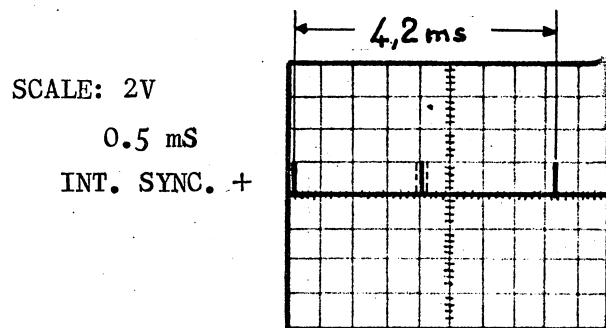

Fig. 8-17
- . Place the oscilloscope probe on the TP 04 (RPP * 1 signal) of the PWA DRIVE (fig. 8.18) and check the time between the 1st and the 3rd pulse during the carriage motion to the right side (fig. 8.17)